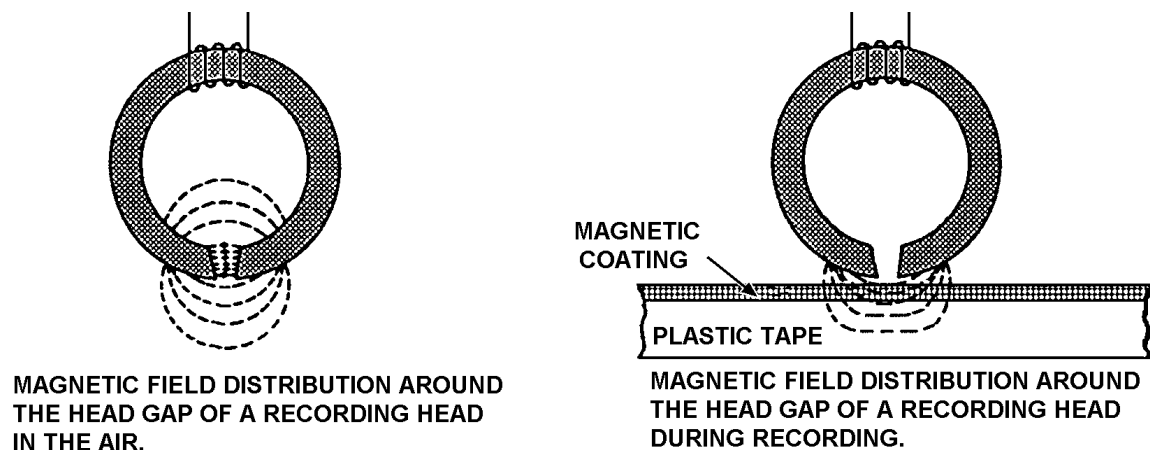

Figure 1-4.—Magnetic field distribution around the head gap.
**MAGNETIC HEAD CONSTRUCTION.**—A magnetic head is a magnetic core wrapped with a coil of very thin wire (see figure 1-4). The core material is usually shaped like the letter C, and is made from either iron or ceramic-ferrite material. The number of turns of wire placed on the core depends on the purpose of that specific head. The gap in the core is called a *head gap*. It's here that magnetic recording actually takes place. We'll go into more detail of magnetic head construction in chapter 3.
**MAGNETIC HEAD OPERATION.**—Whether you're recording on magnetic tapes or disks, all magnetic heads operate the same way. When an electric current passes through the coil of a magnetic head, magnetic field lines associated with the electric current follow paths through the core material. When the magnetic fields get to the head gap, some of them spread outside the core to form a *fringing field*. When a recording medium is passed through this fringing field, it is magnetized in relation to the electric current. This is called magnetic recording. Figure 1-4 illustrates this process.